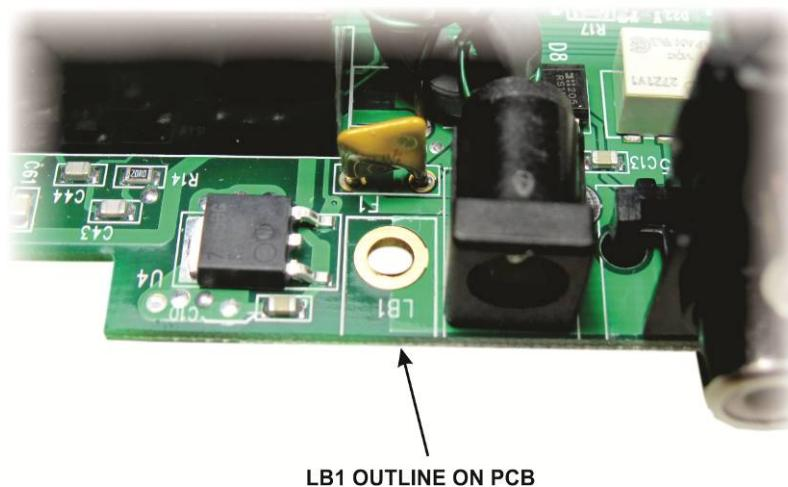

Figure 13. Angle Bracket LB1 Mounting Location.
- Locate the outline marked LB1 on the pc board. It is on the connector edge of the board next to the power connector, see Figure 13.